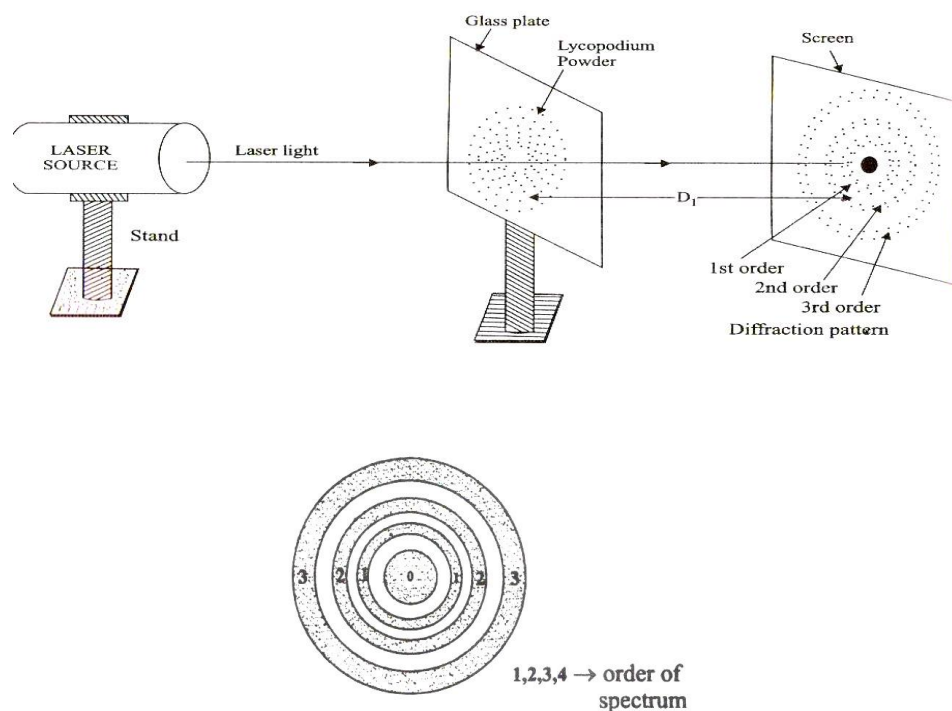

Figure 3.2. Particle size determination by Laser
A glass plate is taken and a fine powder of particle size in the range of micrometer is sprinkled on the glass plate. This glass plate is kept between laser light and screen. The experimental is shown in the Fig.3.2. Now laser beam gets diffracted by the particles present in the glass plate. By adjusting the distance between the glass plate and the screen, (D) a circular fringe pattern is seen on the screen and the distance between the central bright point and n^{th} fringe x_n for various orders of diffraction is measured.